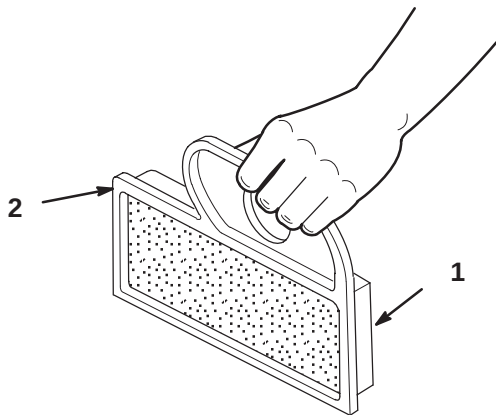

Figure 36
- Lightly tap the element on a flat surface to remove dust and dirt (Fig. 36).